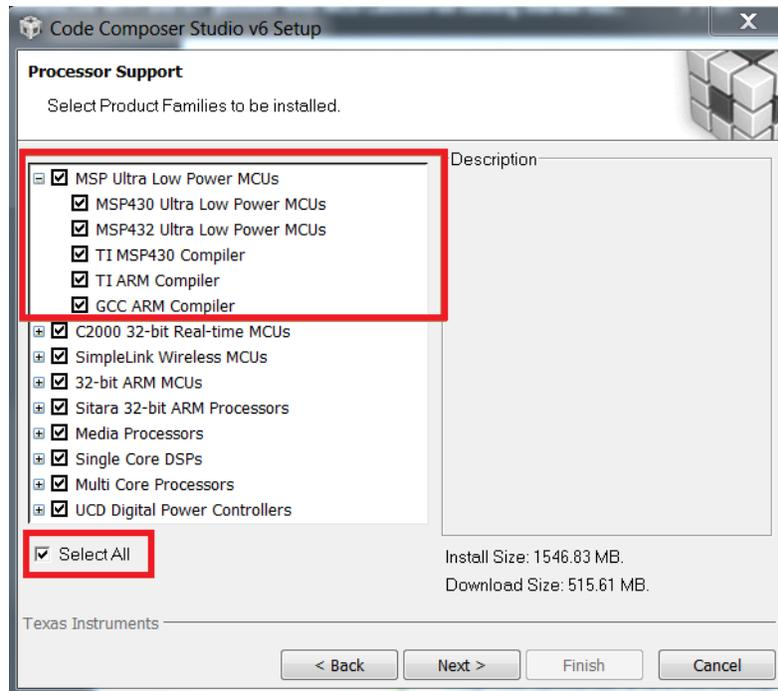

**Figure 2. Selecting .out File in UniFlash**
5. Select Browse and find the configuration file at *[Installed Path]\examples\boards\MSP-EXP430F5529LP\F5529LP\_TRF7970A\_ALL\_NFC\_MODES\Debug* and select the F5529LP\_TRF7970A\_ALL\_NFC\_MODES.out file (see Figure 2).